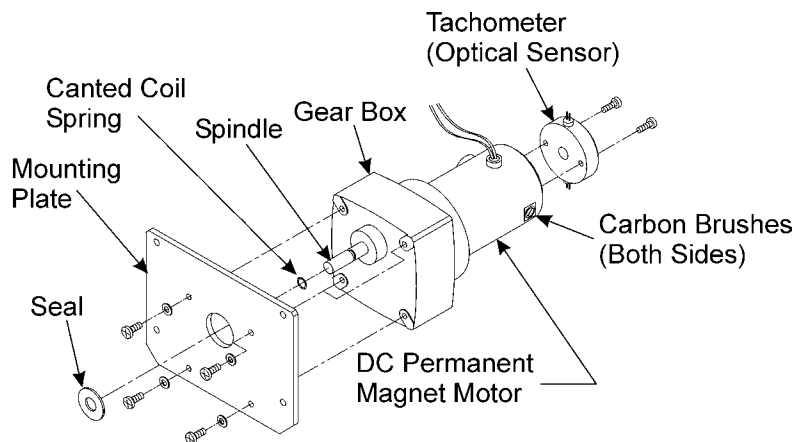

Figure 10-1. Blood Pump Assembly
The primary and optional secondary blood pumps are mechanically and electrically identical. The Blood Pump (BP) assembly consists of the following elements (see Figure 10-1), most of which are internal to the Instrument:
Gear Box with Spindle. Transmits the rotary motion of the DC Motor to the BP Rotor (see Figure 10-1) providing the appropriate change in speed and torque. You can gain speed or torque at the expense of the other.
Compare Figures 10-1 and 10-2, and notice that the Secondary Pump motor is rotated 90° with reference to the Primary Pump motor.
An optical speed (tach) sensor is mounted on the rear shaft of the blood pump motor (Figure 10-1), with an LED on one side of the shaft, and a photo transistor on the opposite side. The shaft has two holes drilled through it. Each hole is perpendicular to the shaft and to the other hole. When the blood pump is rotating, four optical pulses are received per shaft revolution.